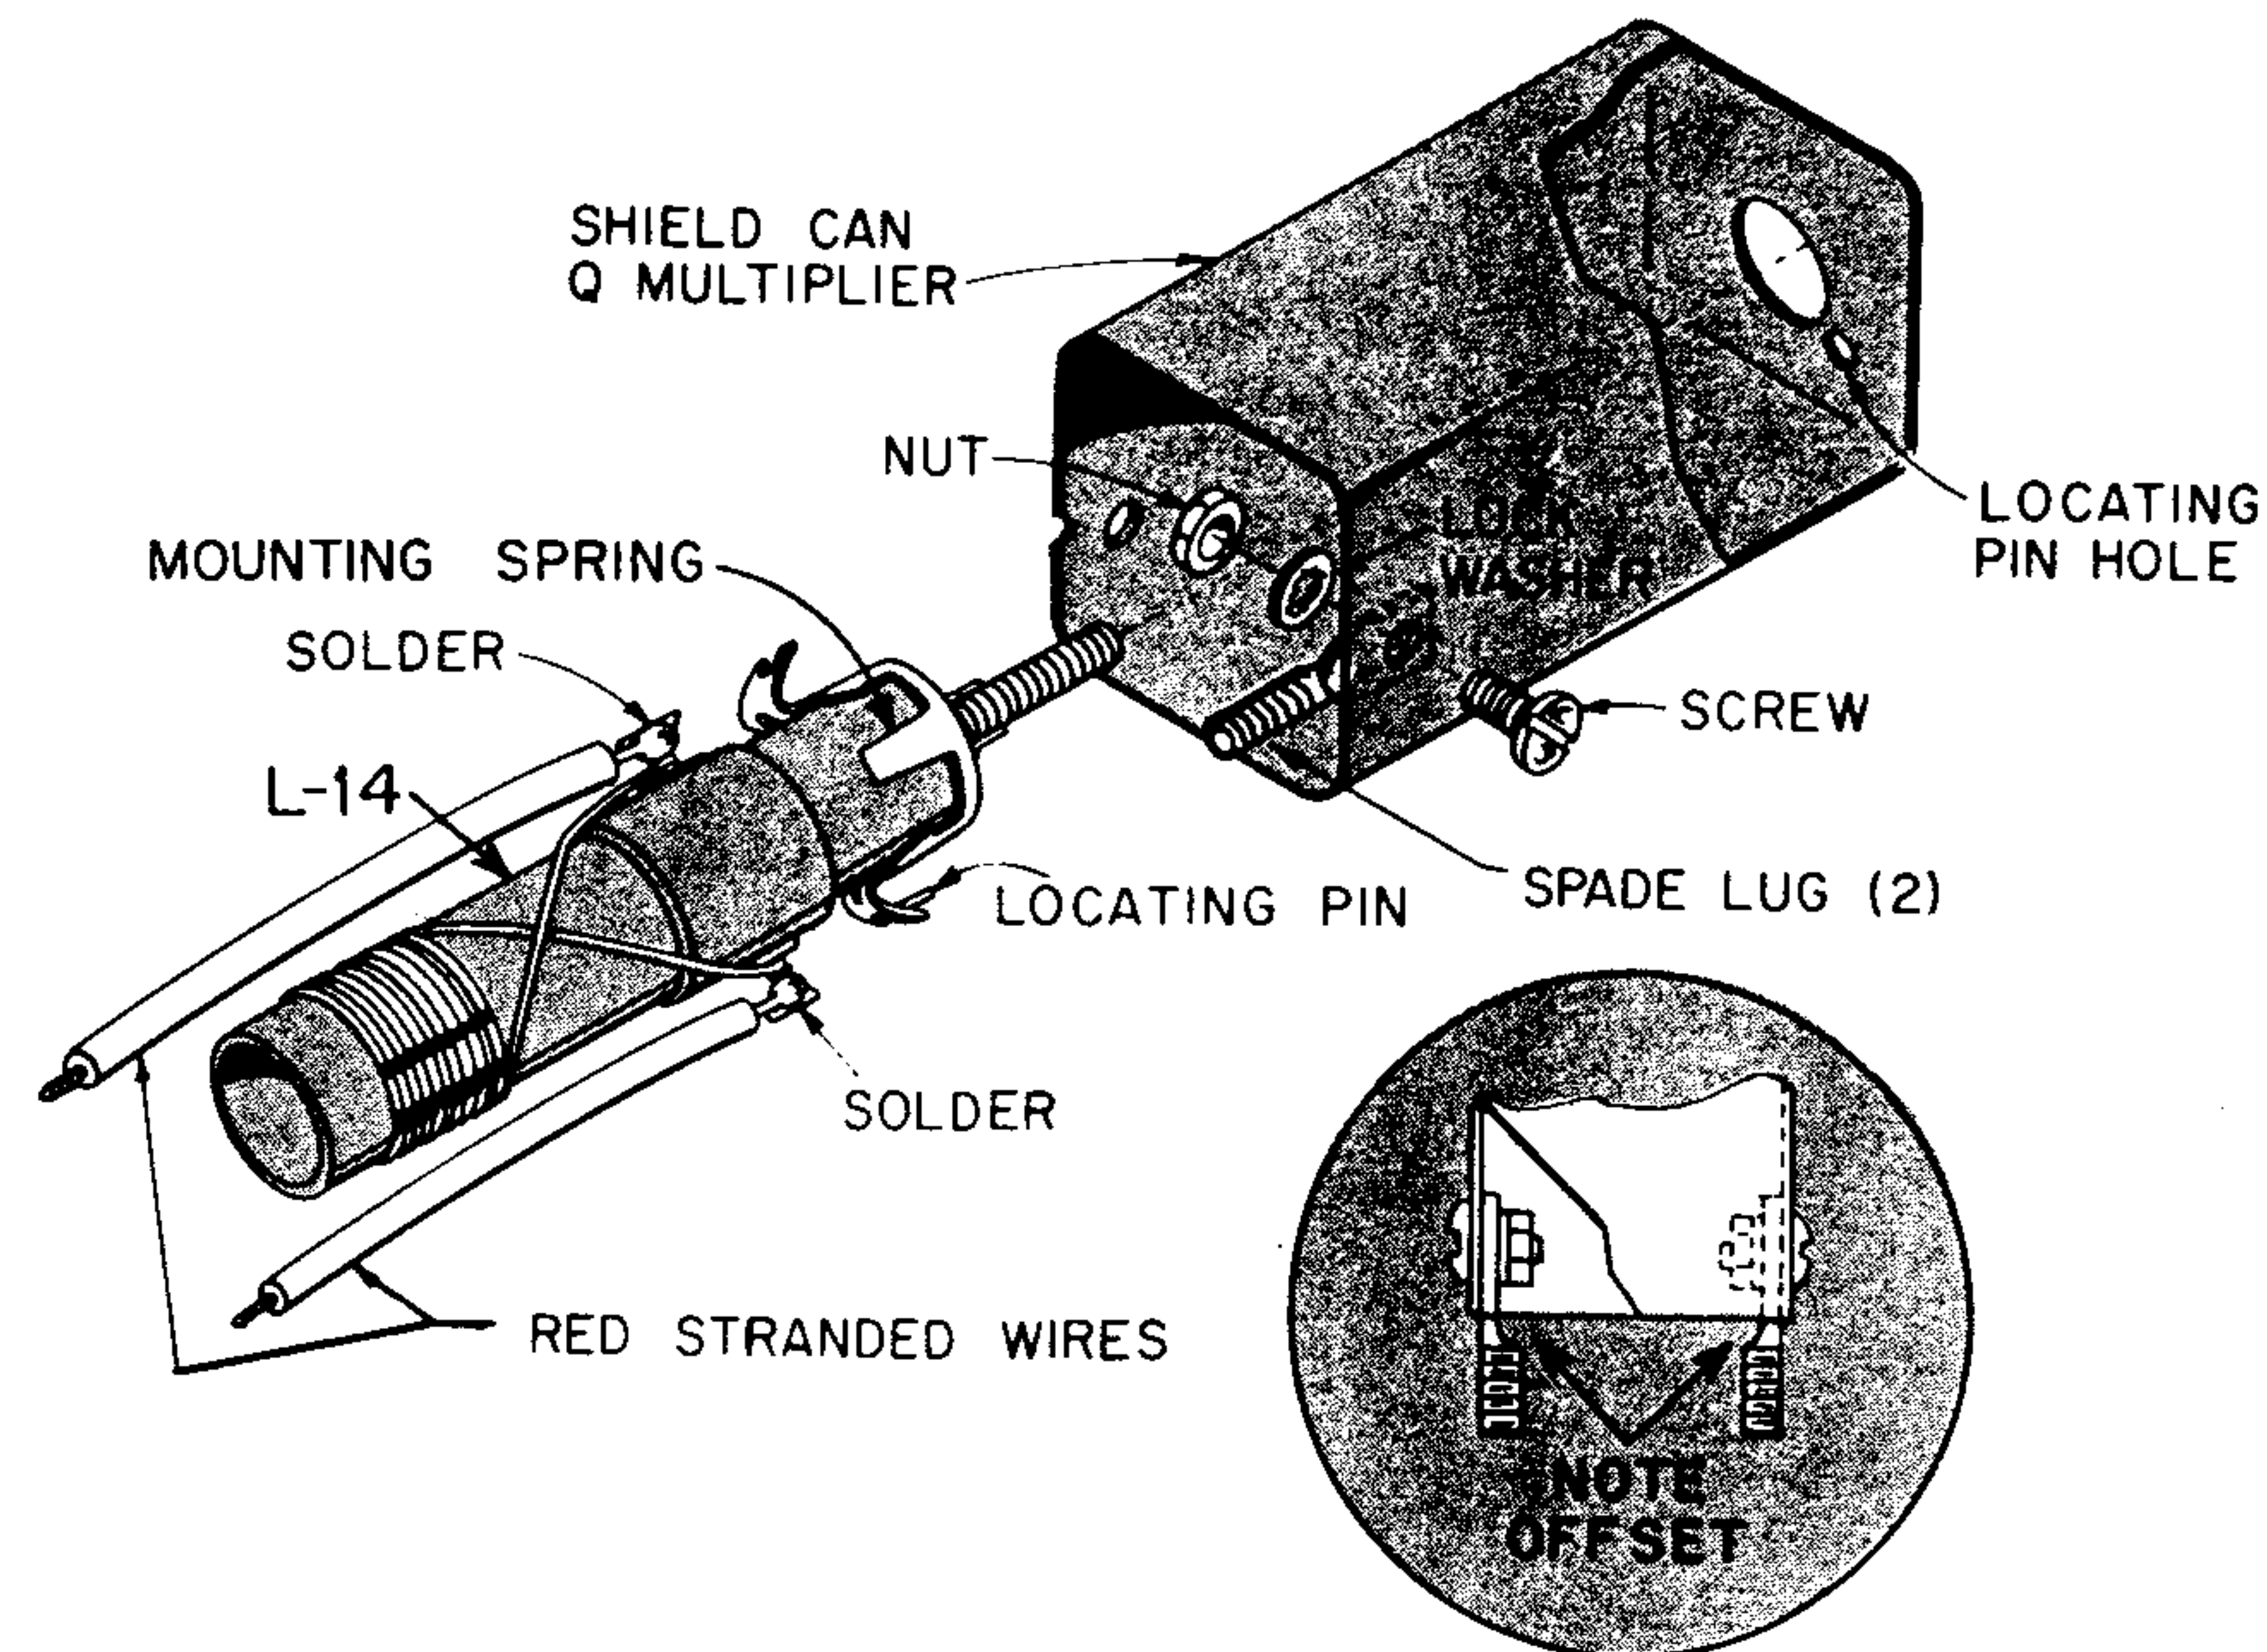

FIGURE 2. MOUNTING THE QX COIL
Before mounting L-14, the QX coil, in its can, two wires must be connected to it. L-14 has two terminals and an adjusting screw. See Figure 2.
- ☐ Install L-14 into its can by pushing the mounting clip of L-14 through the large hole on top of the QX can so the locating pin comes into place and the mounting springs "snap" through the large hole. See Figure 2.